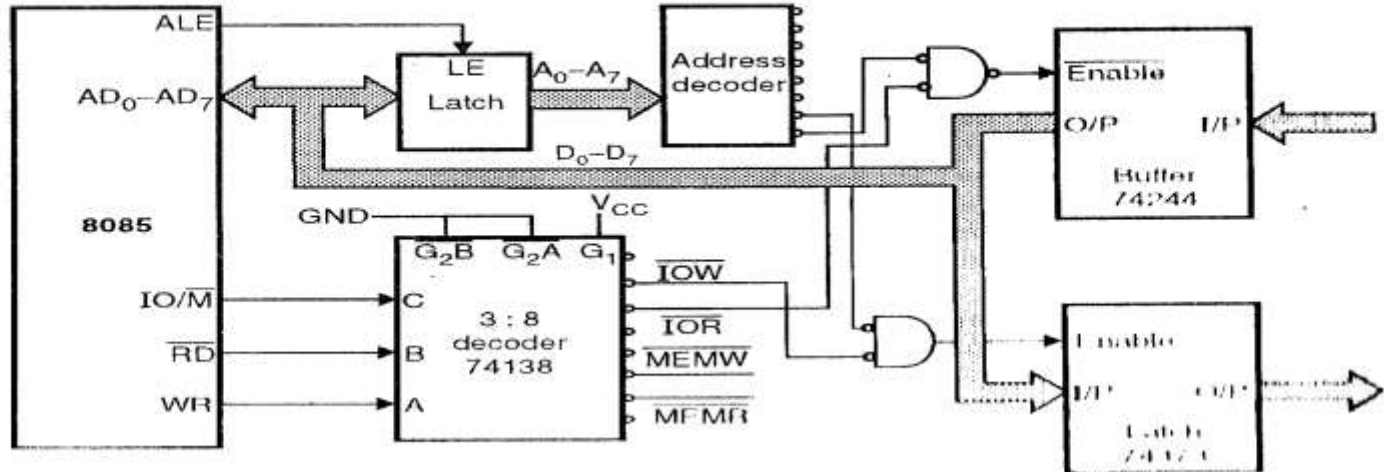

Fig. 9.8 : General I/O device interfacing
- (1) We can map I/O device, any where in I/O map.
- (2) It is not essential to use, all the addresses. Few can be unused, depending upon application.
- We can now draw a generalised block diagram for I/O device interfacing. Refer Fig. 9.8.